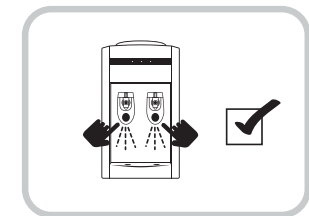

Fig.2
3. Push each water lever (hot and cold temperature) to ensure water is running through the unit. (Fig. 2)